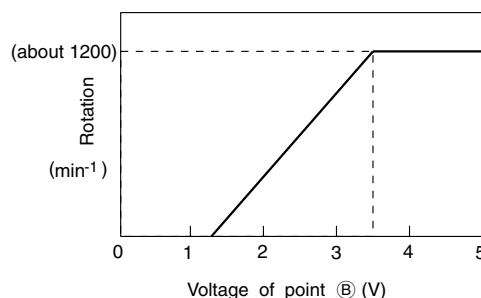

Fig. 6-3
- This pulse changes to analog voltage by R751 and C751 and it is applied to the fan motor as instruction voltage number of rotations. The relationship between the voltage of point ① and number of rotations becomes as shown in Fig.6-3. (The gap may arise depending on the condition of unit.)
- The feedback pulse of number of rotation is outputted from the fan motor and input to micro computer pin ①④. The frequency of this pulse is 12/60 of the number of rotations. (Ex: 1000min⁻¹ × 12/60 = 200Hz) The micro computer observes this frequency and to make it as the instruction number of rotation all the time, adjusts the output pulse width of pin ④⑩.